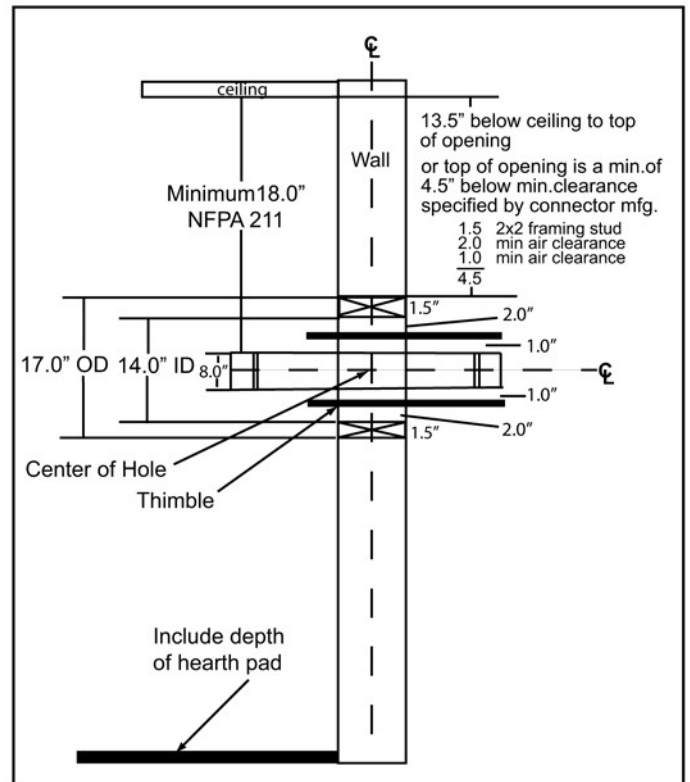

Figure 6.1
- Top of wall opening is a minimum of 1-1/2 inches (4mm) from ceiling or 4-1/2 inches (114mm) below minimum clearance specified by chimney connector manufacturer. NFPA 211 minimum vertical clearance of 18 inches (457mm) from chimney connector and ceiling or minimum recommended by chimney connector manufacturer. **Figure 6.1.**
1. Open inside wall at proper height for the chimney connector to entry the masonry chimney. **Figure 6.1.**
3. Construct a 17 inch x 17 inch (42mm x 42mm) outside dimension frame from 2 x 2 framing lumber to fit into wall opening. Inside opening of frame should be no less than 14 inch x 14 inch (56mm x 56mm). **Figure 6.1.**